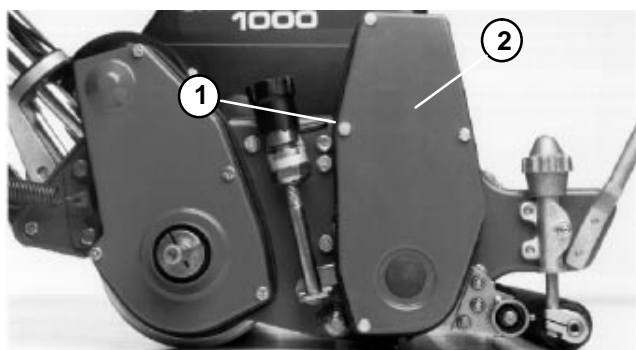

Figure 19
2. Remove four cap screws and lock washers and then the reel drive cover (Fig. 19).